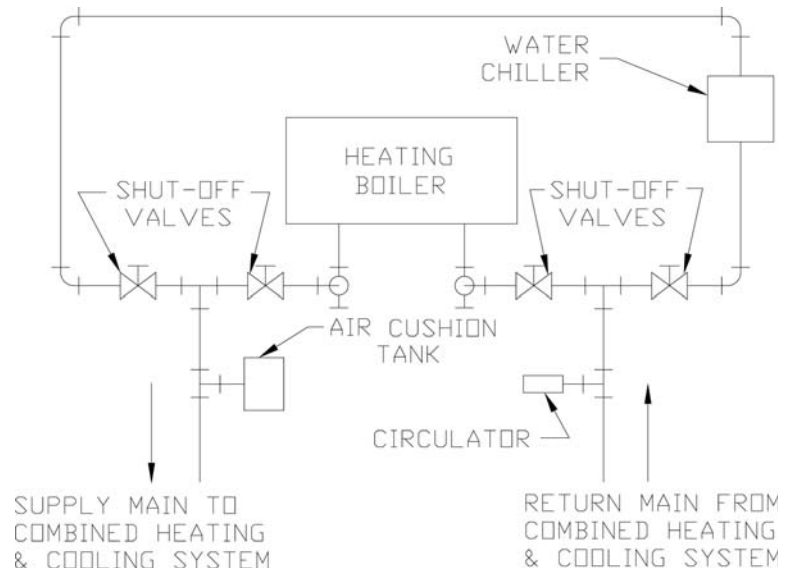

Figure 7
- b. If this boiler is used in connection with refrigeration systems, the boiler must be installed so that the chilled medium is piped parallel with the heating boiler using appropriate valves to prevent the chilled medium from entering the boiler, see Figure 7. Also consult I=B=R Installation and Piping Guides. If this boiler is connected to heating coils located in air handling units where they may be exposed to refrigerated air, the boiler piping must be equipped with flow control valves to prevent gravity circulation of boiler water during the operation of the cooling system.
- a. FILL ENTIRE HEATING SYSTEM WITH WATER and vent air from system. Vent air from all heat distributing units and all high points in the piping of the system. When venting air from system keep fill valve in open position to maintain water pressure. Make certain pressure reducing valve is installed between the fill valve and the boiler. (See Figure 7)